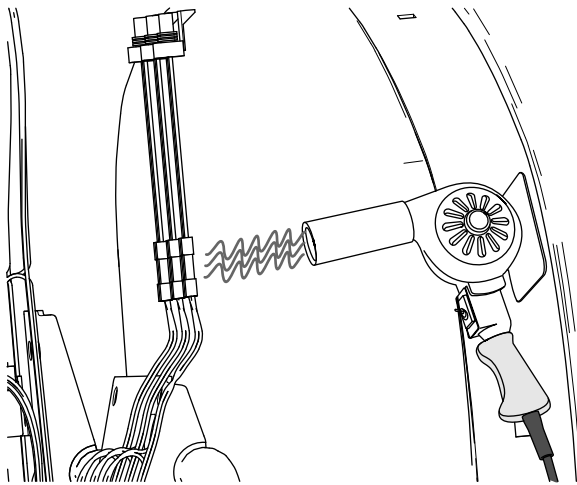

Figure 36
5. Use a heat gun to shrink the insulating sleeves of the 3 butt-splice connectors (Figure 36).